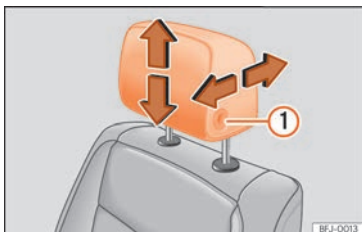

Fig. 20 Front seat: adjusting the head restraint.
To adjust the height, grab the sides of the head restraints with both hands and push upwards to the desired position. To lower it, repeat the same action, pressing the » » » Fig. 20 button on the side ①.
To adjust it longitudinally, move it forwards or backwards while pressing the button on the side » » » Fig. 20 ①.